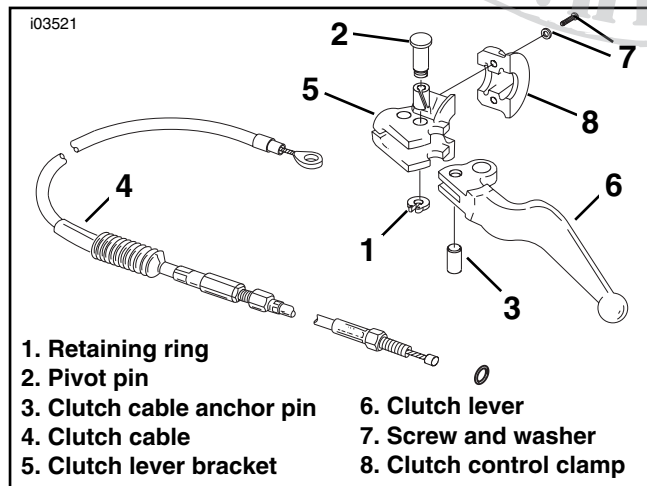
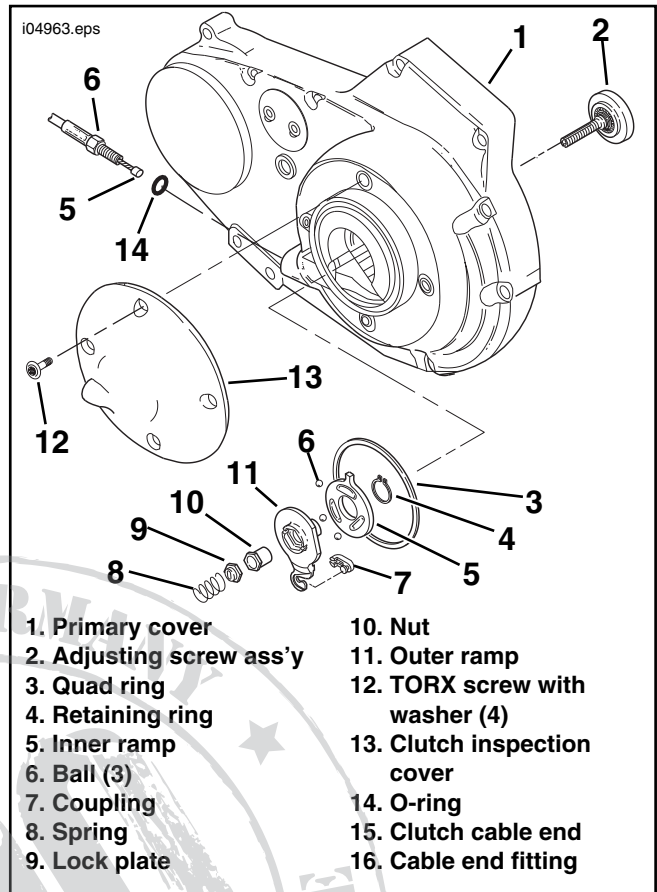

Figure 7. Clutch Cable Components
Figure 8. Clutch Release Mechanism
- See Figure 7. Remove the retaining ring (1), pivot pin (2) and clutch cable anchor pin (3) from the hand lever.
- Disconnect the upper section of the clutch cable (4) from the lever.
- See Figure 8. Using a T-27 TORX driver, remove four TORX screws with washers (12) to remove the clutch inspection cover (13). Exercise caution to avoid damaging or dislodging the quad ring (3) in the primary cover (1).
- Slide the spring (8) with attached hex lock plate (9) from the flats of the adjusting screw (2).
- Turn the adjusting screw clockwise to release the ramp and coupling mechanism. As the adjusting screw is turned, the ramp assembly moves forward. Unscrew the nut (10) from the end of the adjusting screw.
- Remove the hook of the outer ramp (11) from the bottom at the rear of the cable end coupling (7). Remove the cable end (15) from the slot in the coupling.
- Turn the cable end fitting (16) counterclockwise to remove the clutch cable lower section from the primary cover (1). Remove the "O"-ring (14) from the cable end fitting.
50. See Figure 8. Obtain the stainless steel clutch cable and "O"-ring from the clutch cable kit. Apply a light coat of oil on the "O"-ring (14) and install the "O"-ring onto the threaded portion of the clutch cable end (16). Turn the fitting clockwise to install into the primary cover (1). Tighten the fitting to 3-5 ft-lbs (4-7 Nm).
51. Fit the coupling (7) over the cable end with the rounded side inboard and the ramp connector button outboard. With the retaining ring side of the ramp assembly facing inward, place the hook of the ramp around the coupling button and rotate the assembly counterclockwise until the tang on the inner ramp (5) fits in the slot of the primary cover (1).
52. Thread the nut (10) onto the adjusting screw (2) until the slot of the screw is accessible with a screwdriver. Fit the nut hex into the recess of the outer ramp (11), and turn the adjusting screw counterclockwise.
54. See Figure 7. Connect the end of the clutch cable upper section to the clutch lever (6) using the clutch cable anchor pin (3) from the clutch cable kit.
55. Position the lever within the clutch lever bracket (5).